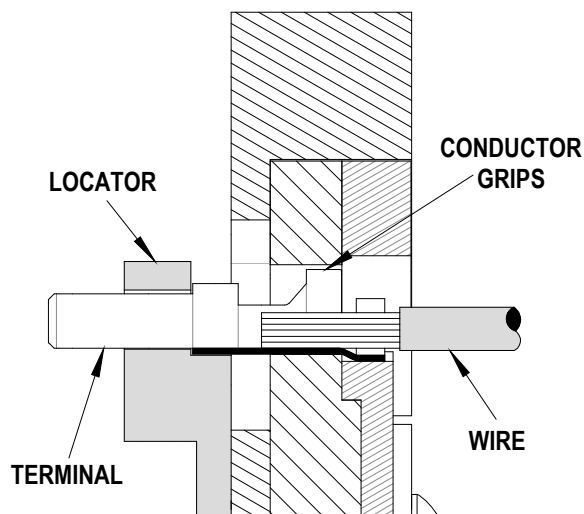

Figure 1
1. Place the terminal into the correct die profile (8) until the terminal is stopped by the locator.
3. Place a pre-stripped wire into the terminal, and align the wire with the conductor and insulation grips visually. See Figure 1.